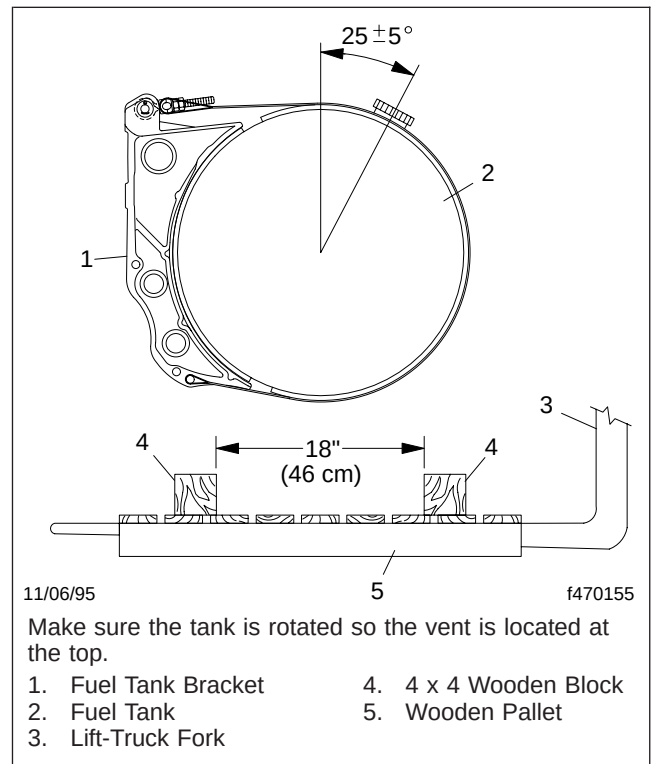

Fig. 2, Fuel Tank Orientation and Support
6. To prevent the fuel tank from rolling during and after removal, nail 2-by-4 or 4-by-4 wooden blocks to the top of a pallet about 18 inches (46 mm) apart, then place the pallet on the forks of a fork lift. See Fig. 2.
1. Using the fork lift and pallet, put the fuel tank in its approximate installed position. Make sure the tank is rotated so the vent is located at the top; see Fig. 2.